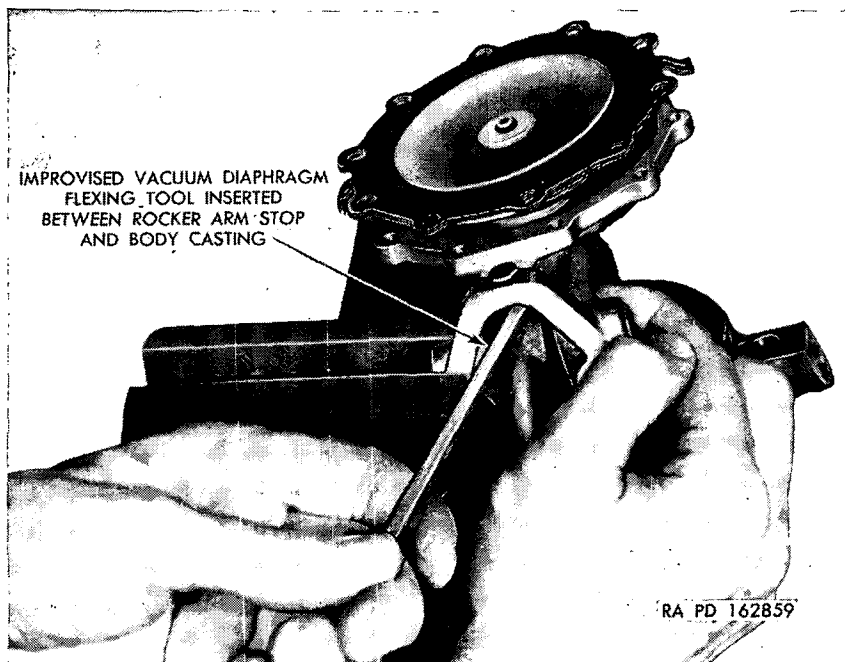

Figure 33. Vacuum diaphragm flexing tool in use.
- (4) Place spring retainer on riveted end of diaphragm pull rod and the spring on retainer. Place vacuum cover over spring and aline the file marks.
- (5) Insert two No. 10-32NF x 1½ screws in two opposite holes in cover flange. Turn these long screws down, alternating a few turns on each. Insert regular screws with lock washers and tighten until screws just engage lock washers. Replace two long screws with regular screws and lock washers.
- (6) Remove 3/32-inch tool (fig. 33) from rocker arm position. This allows the heavy vacuum spring to push diaphragm into a flexed position. Tighten all cover screws securely.